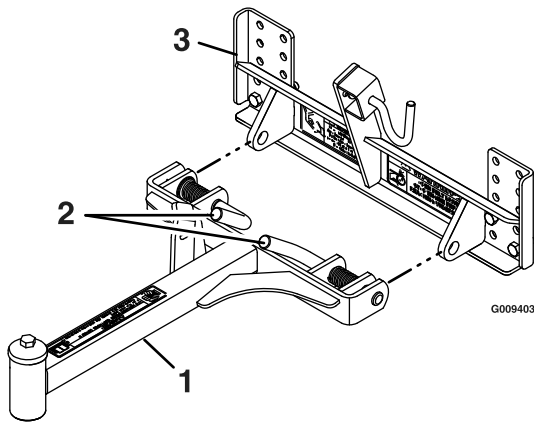

Figure 10
1. Locate the pull arm assembly. Align the pull arm assembly with the pull frame as shown in Figure 10. Squeeze the quick connect pins on the pull arm assembly and attach the pull arm assembly to the pull frame.